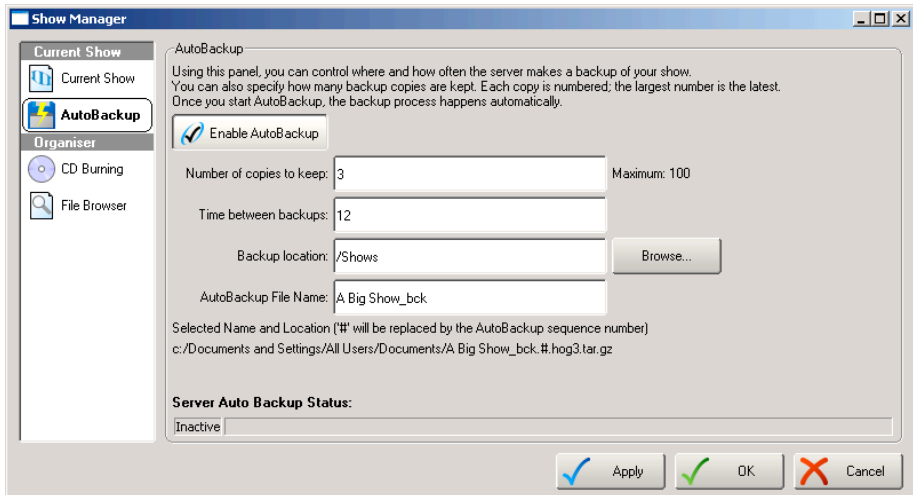

Figure 11.3. The Show Manager Window
1. Setup → Shows → Auto Backup : open the Auto Backup pane of the Shows window; see Figure 11.3, “The Show Manager Window”.